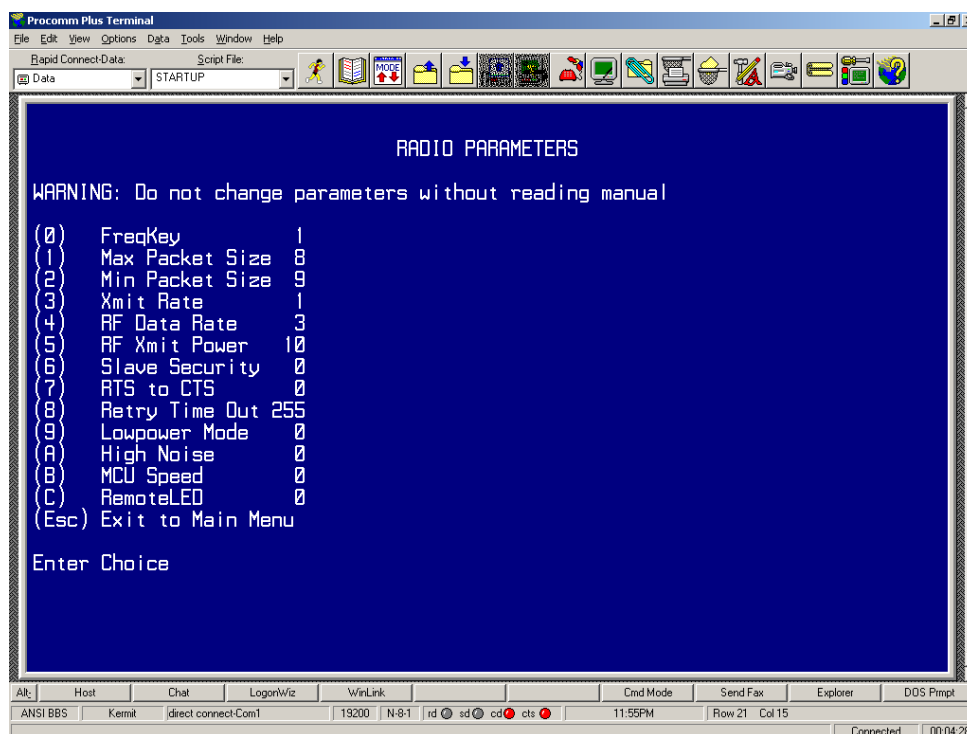

Figure 9-1: Radio Transmission Parameters Menu
When item (3) is selected in the main menu the screen in **Figure 9-1** appears, which allows the user to modify the radio transmission characteristics of the Transceivers. As stated in the warning, these parameters are for the sophisticated user who has a good understanding of the principles of radio data transmission. They should be changed only after consulting this manual.